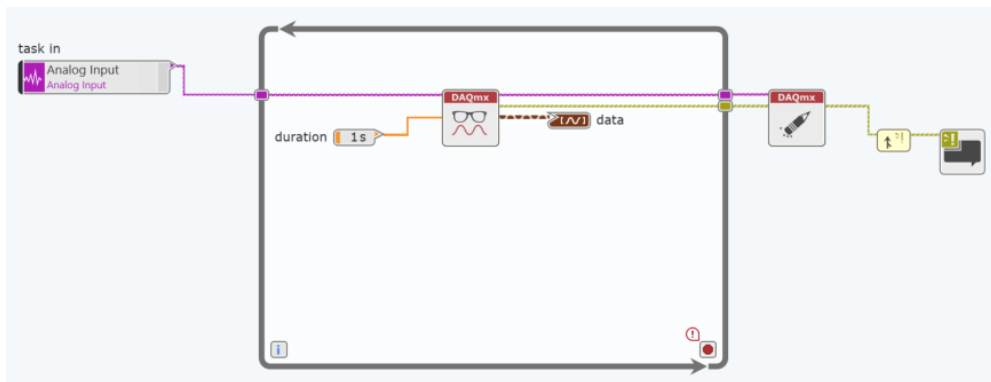

Figure 6-6 DAQmx task code will always follow the same pattern of create/configure channel information, start, acquire or generate, clear, and close.
- h. Now that all functions have been placed, wire them together using the purple Task and yellow Error wires through the Task In/Out and Error In/Out terminals, respectively. This ensures that errors and task configuration information propagate from function to function. Your code should now look like Figure 6-6.